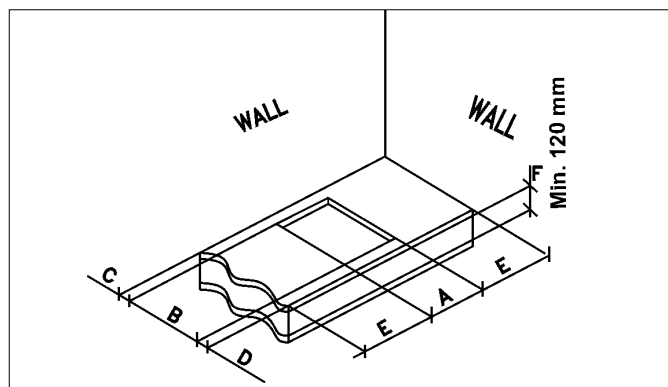
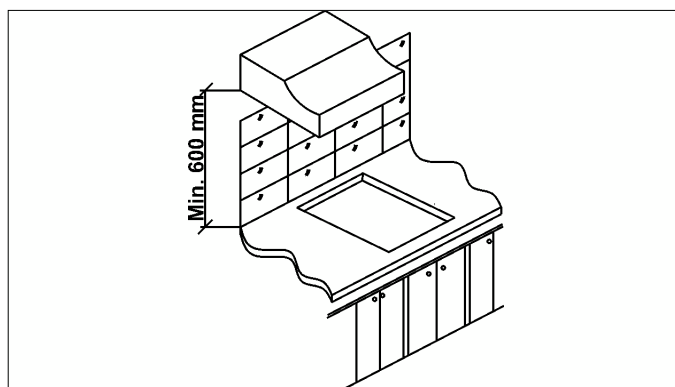

FIG. 4
FIG. 5
Make a cutout in the worktop, according to the dimensions indicated in fig. 4; make sure that will be respected the critical dimensions of the space in which the appliance has to be installed (fig. 5).
In order to avoid accidental contact with the surface of the box of the overheated hob during use, it is necessary to install a wooden divider at a minimum distance of 120 mm from the top, fastening it in place with screws (fig. 4).
- In order to avoid accidental contact with the surface of the box of the overheated hob during use, it is necessary to install a wooden divider at a minimum distance of 120 mm from the top, fastening it in place with screws (fig. 4).